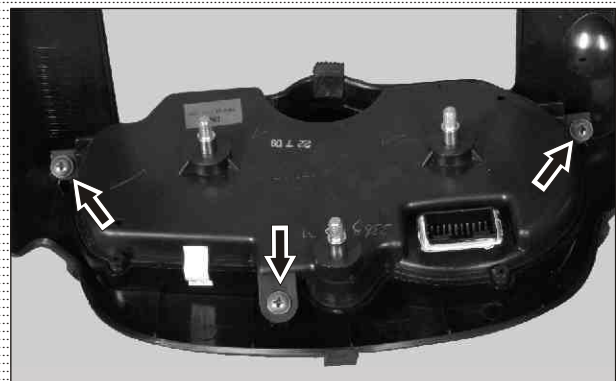

Fig. 5.51
- Remove CRR flanged pan head tap screws (ST4.2x13 - 3 nos) to separate the speedometer assembly from the housing head lamp rear. (Fig. 5.51)